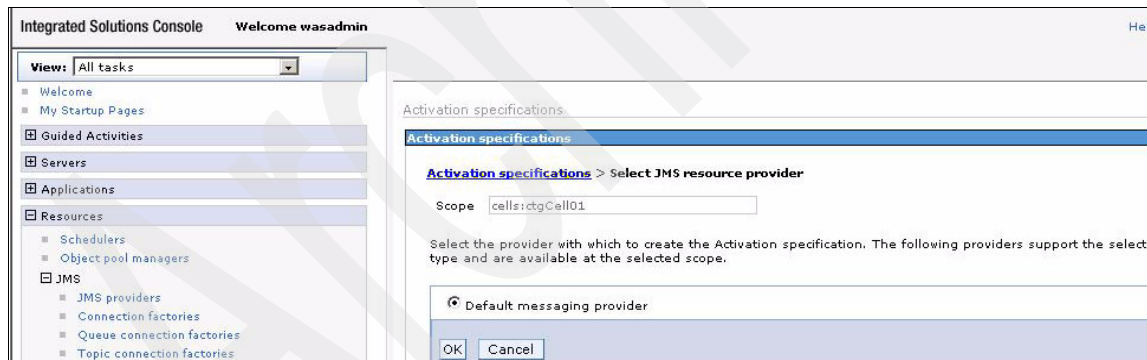

Figure A-44 Select JMS provider
2. From the Scope drop-down list, select **Cell=ctgCell01** (see Figure A-44).